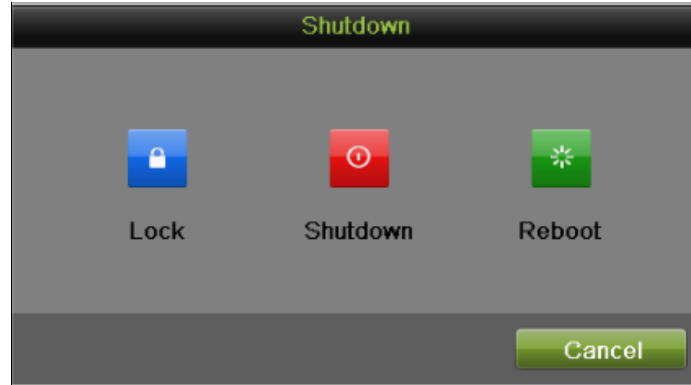

Figure 16 Shutdown Menu
1. Shutdown your DVR by going to **Menu > Maintenance**, click  in the lower left corner to pop-up the Shutdown menu, as shown in Figure 16.
While in the Shutdown menu (Figure 16), you may also reboot your DVR by clicking Reboot.